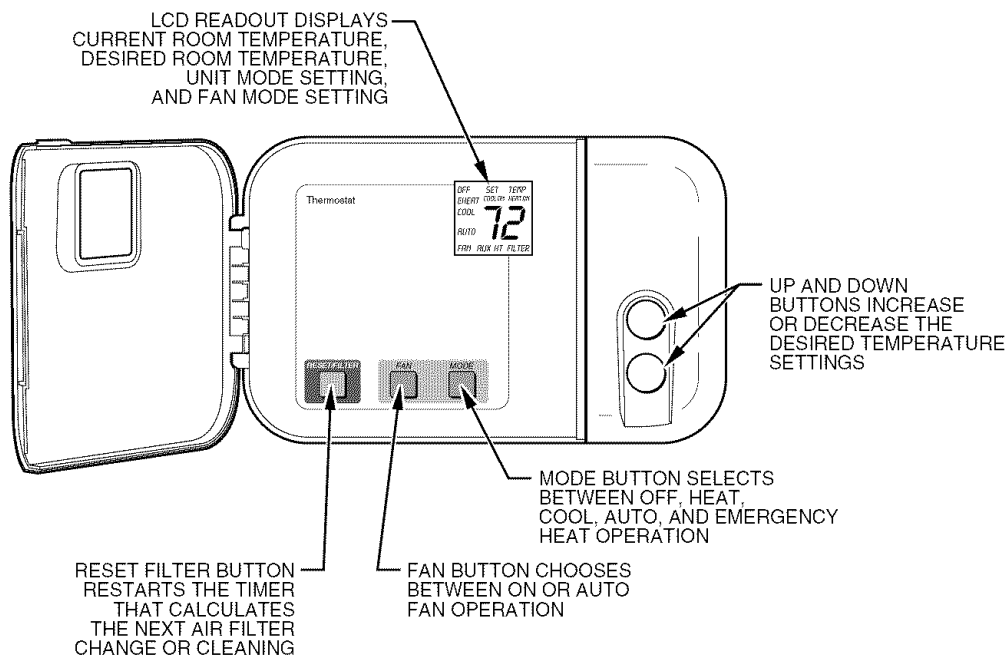
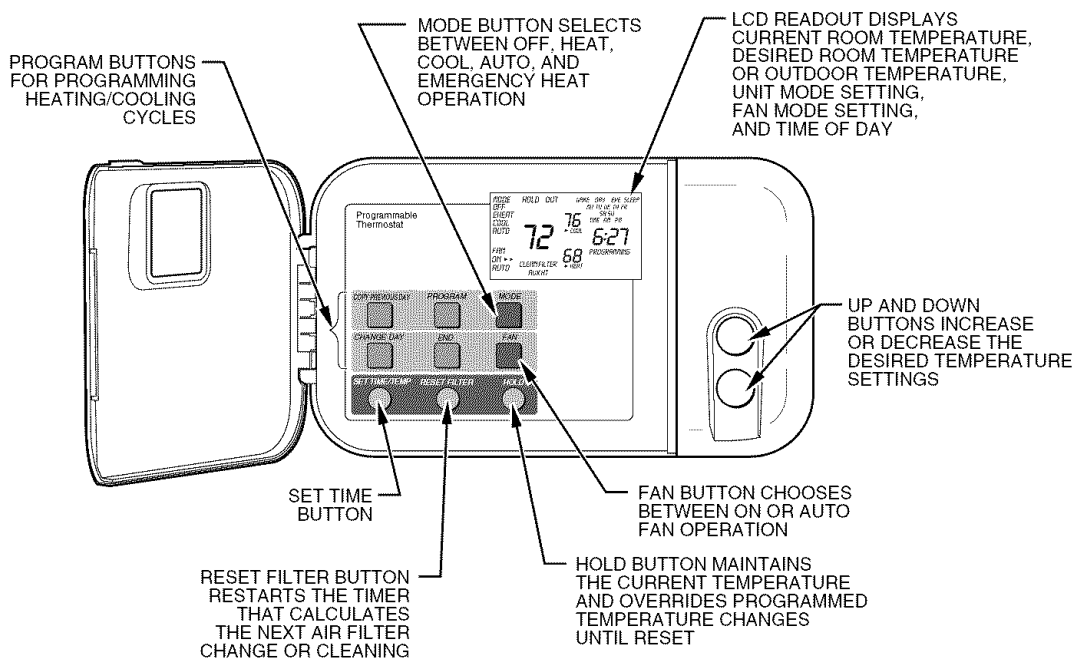

Fig. 2—Typical Carrier Non-Programmable Thermostat
Fig. 3—Typical Carrier Programmable Thermostat
- Your multipurpose indoor thermostat is the control center for your heat pump system. You should familiarize yourself with its proper operation. (See Fig. 2 and 3.) Attempting to control the system by other means—for instance, switching the electrical supply power ON and OFF—may cause damage to the unit.
Your thermostat may be PROGRAMMABLE or NON-PROGRAMMABLE. A NON-PROGRAMMABLE thermostat (See Fig. 2.) does not allow the temperature settings to be varied throughout the day or week without physically changing the settings. A PROGRAMMABLE thermostat (See Fig. 3.) allows various daily temperature changes to be preset. During the winter, for example, you may wish to “set back” the temperature of your home at night, then have the temperature return to normal prior to waking up. The home’s temperature can then be lowered again during the day when no one is at home, but again be at peak comfort level when your family returns home. During the summer, the opposite changes might be programmed. When properly used, the programming can result in energy savings on your home’s heating and cooling.